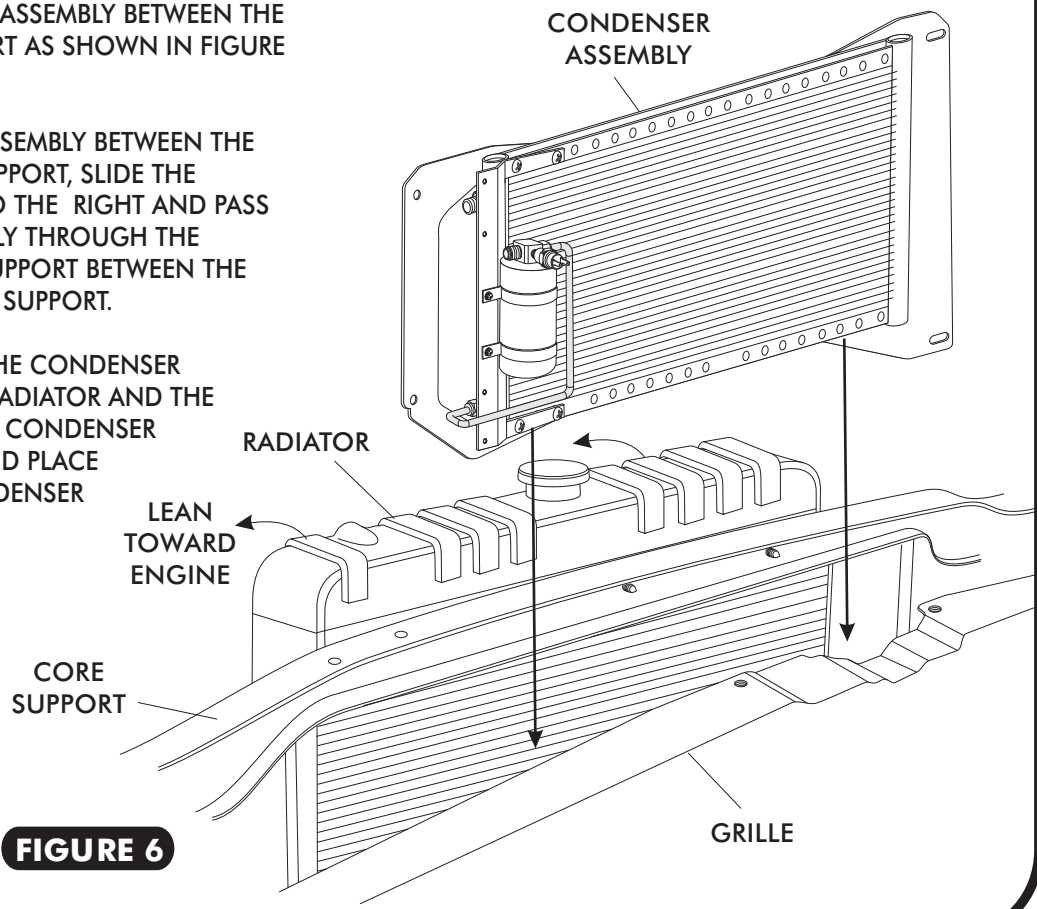

FIGURE 6
- REMOVE THE (4) RADIATOR MOUNTING BOLTS AND RETAIN.
- INSTALL THE CONDENSER ASSEMBLY BETWEEN THE GRILLE AND CORE SUPPORT AS SHOWN IN FIGURE 6 BELOW.